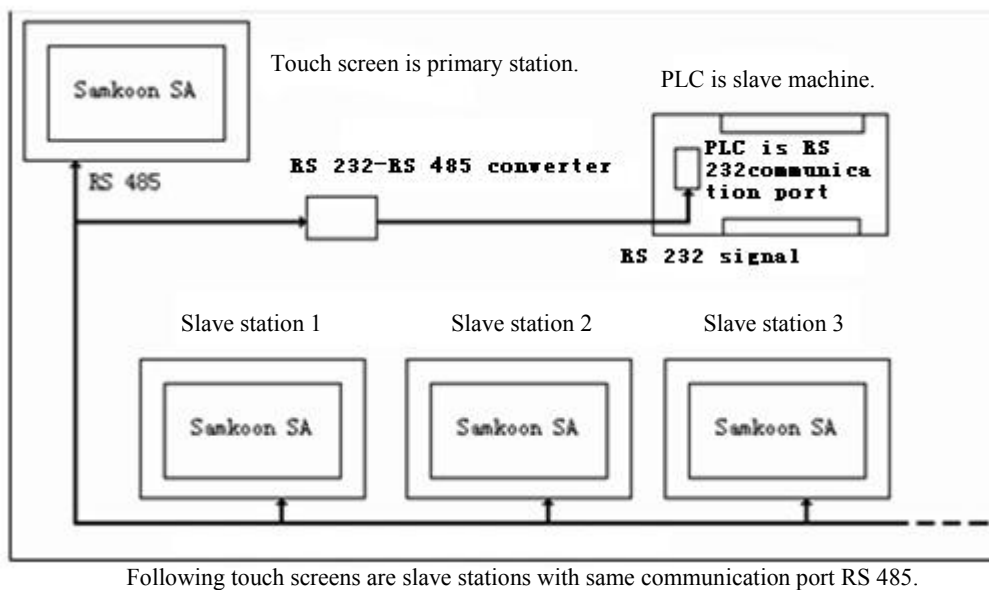

Figure 9-5 Schematic diagram of connection mode “One device with multiple screens” When PLC (RS232) is slave station
1. The communication port RS232 connected with PLC, connection method and system setting of host are as shown in figures 9-5, 9-6 and 9-7.